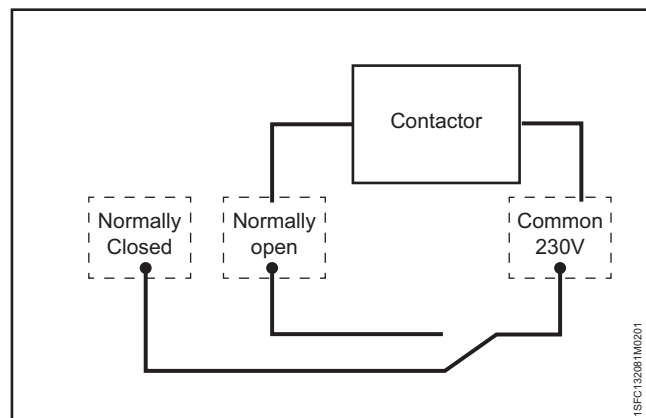

Figure 7.8
Each relay has 3 terminals: 1 common terminal (COM), 1 normally open terminal (NO) and 1 normally closed terminal (NC). . See **Figure 7.8** .